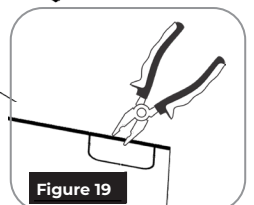

Figure 19
3. **Optional:** If the AC Bracket is installed, use pliers to remove the appropriate knockout located on the top of the cover. (Figure 19)